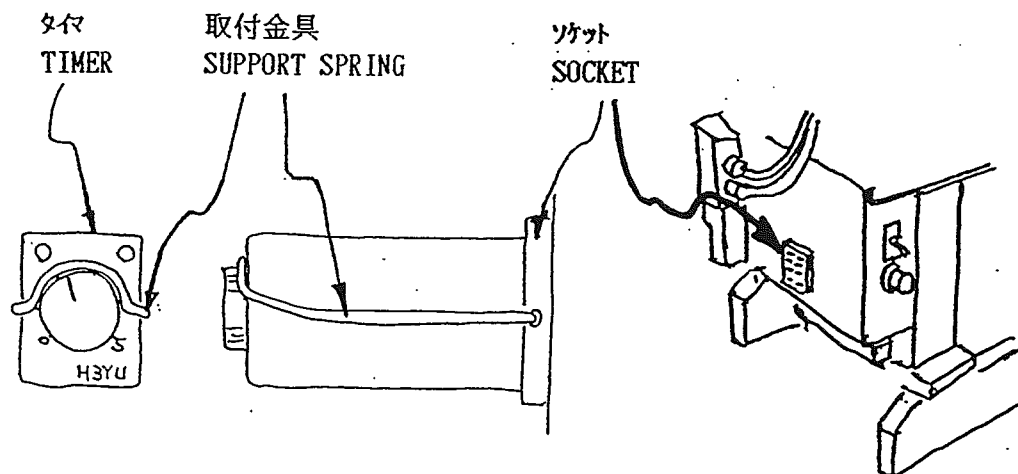

FIG.12
- ・Set the support spring as FIG.12.